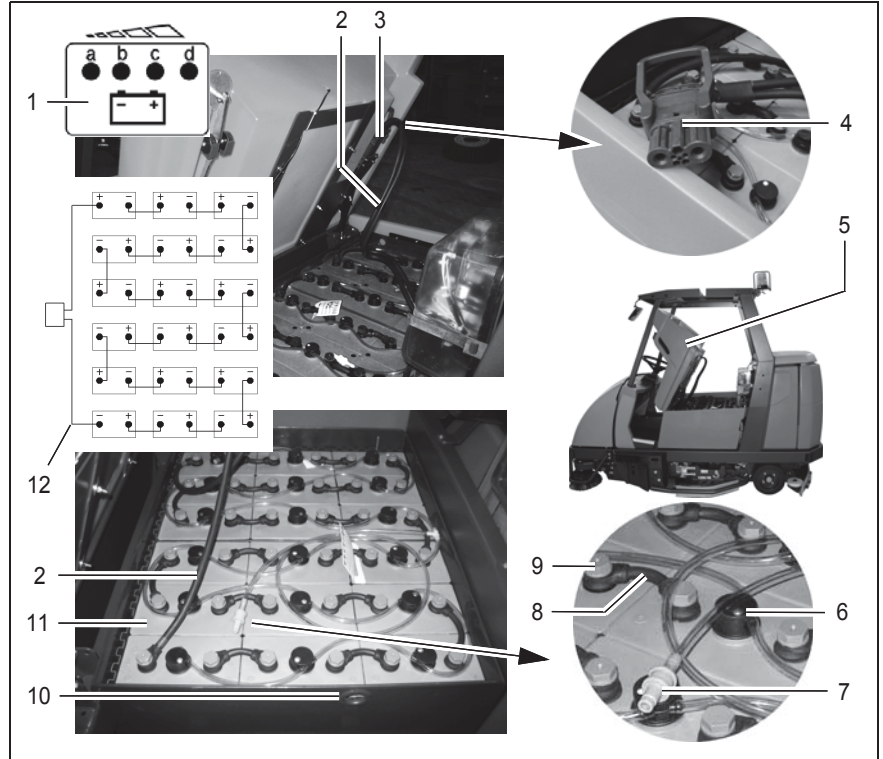

Fig. 28
The seat console (Fig. 28/5) must be open during the battery charging process to prevent the development of explosive oxyhydrogen!
We recommend charging the battery when at least one dot of the battery indicator has gone out after operating the machine. The indicator (Fig. 28/1) also indicates the charge status of the batteries during the charging process.
1. Connect the battery plug (Fig. 28/4) to the adapter supplied.
The battery cells are provided with fill level indicators (Fig. 28/6) which ensure the correct height of electrolyte is maintained: The white point must be clearly visible at the top. If this is not the case, distilled water must be refilled. Topping up the battery is completed via the connection coupling, the aquamatic plug (Fig. 28/7), which is then connected to the water filling device. This is not part of the scope of delivery.
Install the trough battery in the vehicle from the left-hand side of the vehicle using lifting gear or a fork-lift truck according to Figure 28.